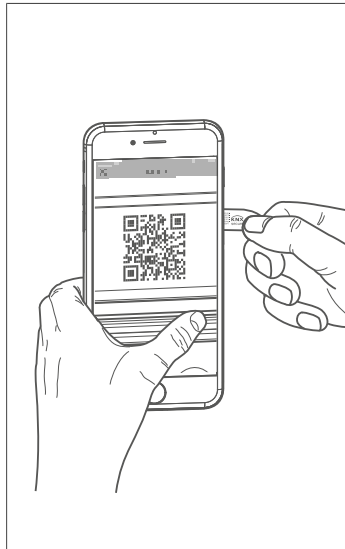
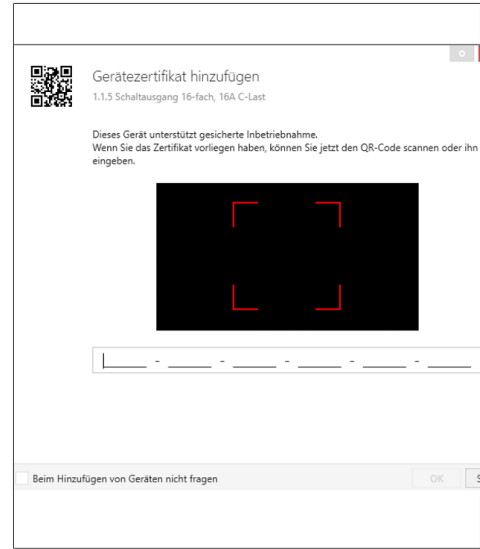

Fig. 15: Scanning the QR code
Fig. 16: Entering the QR code manually
- ① Activate safe commissioning mode in ETS.
- ② Enter the device certificate (QR code) (Fig. 16), scan it (Fig. 15) or add it to the project in ETS.